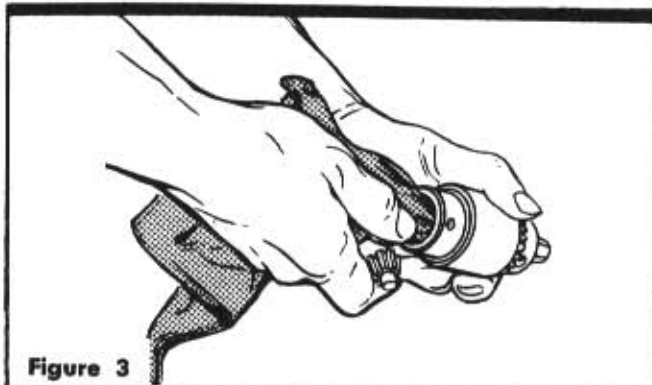

Figure 3
1. Clean the spindle taper and tapered socket in chuck body with a clean cloth (See figure 3). Make sure no foreign particles are left on these tapered surfaces which would prevent proper seating of the parts.